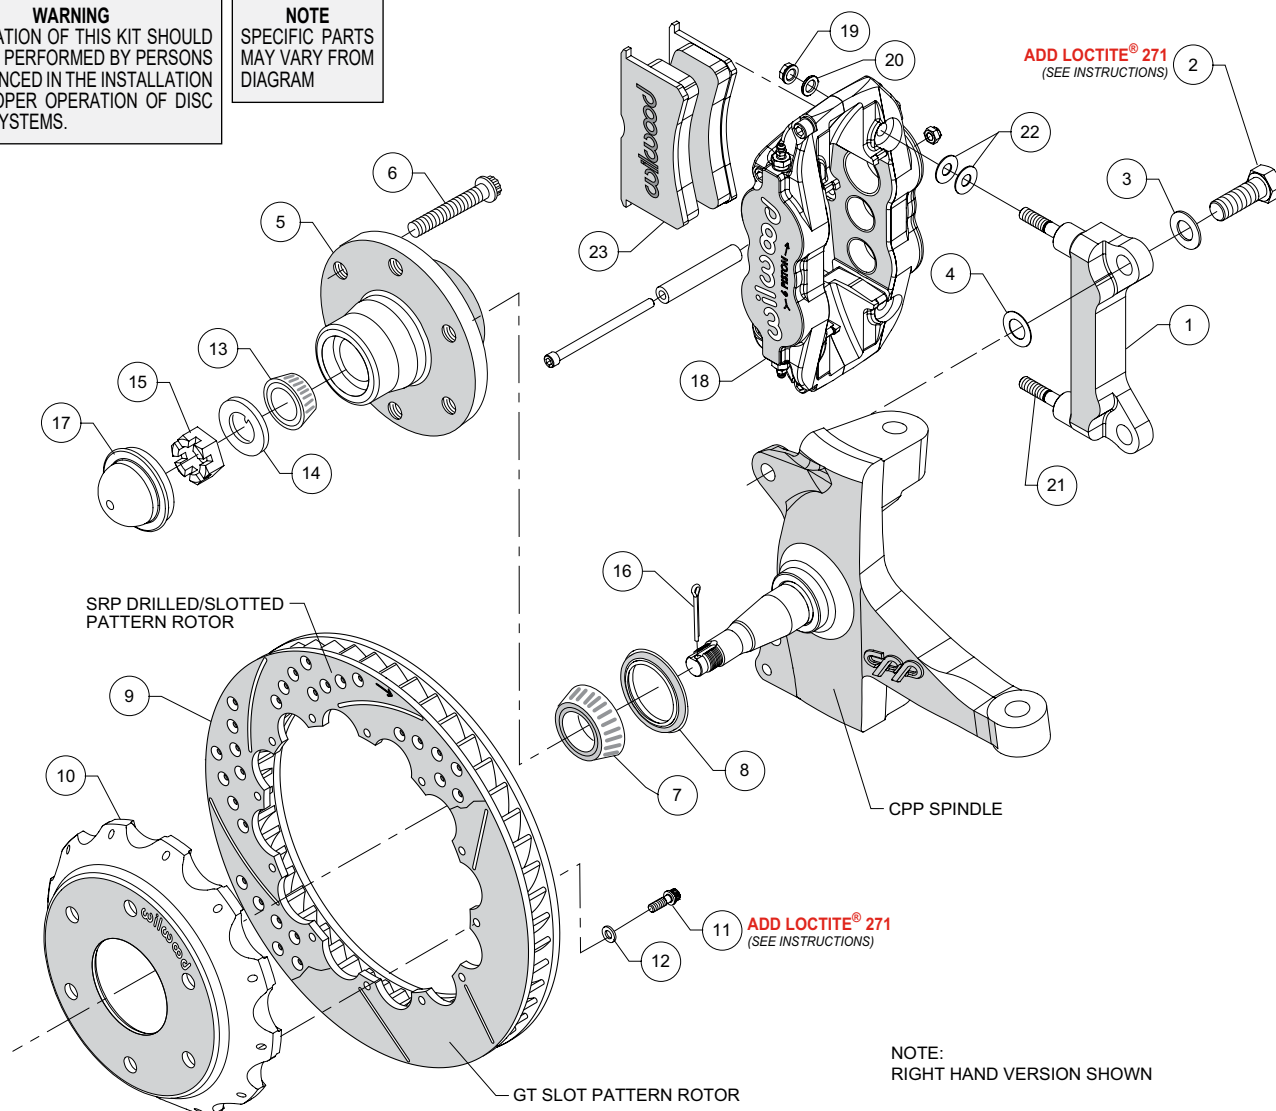
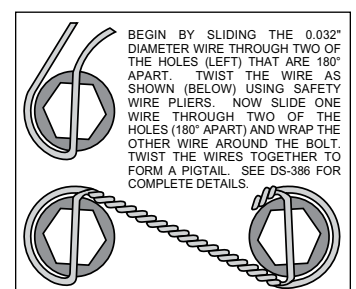

Figure 1. Typical Installation Configuration
Figure 3. Safety Wire Diagram
NOTE: Numbers in parenthesis refer to the parts list and Figure 1 on the preceding pages.
- The caliper mount bracket (1) should initially be installed with clean, dry threads on the mounting bolts. Orient the bracket, as shown in Figure 1, and Photo 1, and install using bolt (2) and washer (3). Initially place one .024" thick shim (4) on each bolt between the bracket and upright, Figure 1. Temporarily tighten the mounting bolts. **NOTE: The bracket must fit squarely against the mount bosses on the upright.** Inspect for interference from casting irregularities, machining ridges, burrs, etc. Later, after the caliper alignment has been checked, the mount bolts will be secured using red *Loctite*® 271.
- Install wheel studs (6) into the hub (5), Photo 2. Torque to 77 ft-lb.
- Pack the large inner bearing cone (7) with high temperature disc brake bearing grease (available from your local auto parts store) and install into the backside of the hub (5), Photo 3.
- Install the grease seal (8) by pressing into the backside of the hub (5), flush with the end of the hub, Photo 4.
- Orient the rotor (9) and the hat (10) as shown in Figure 1 and Photo 5. Attach rotor to hat using bolts (11) and washers (12). Apply red *Loctite*® 271 to the bolt threads and torque to 155 **in-lb** using a criss-cross pattern. and torque to 155 **in-lbs**. For an added measure of security, the bolts may be safety wired using standard 0.032 inch diameter stainless steel safety wire as shown in Figure 3. Refer to Wilwood's data sheet DS-386 (available at www.wilwood.com/Pdf/DataSheets/ds386.pdf) for complete safety wire installation instructions.
- Pack the small outer bearing cone (13) with high temperature disc brake bearing grease and install into hub (5). Slide the hub assembly onto the spindle. Secure using spindle washer (14) and spindle nut (15), Photo 6. Adjust bearings per OEM specifications. Install a new cotter pin (16).
- Press the dust cap (17) into the hub (5). **NOTE: Do not hammer center of cap. Install using outer flange only.**
•**NOTE:** This kit contains distinct right and left hand calipers that must be mounted in a specific direction, as described below. Initially place two .035" thick shims (22) on each stud (21) as shown in Figure 1 and Photo 8. Mount the caliper (18) onto the bracket (1) using lock nuts (19) and washers (20), Figure 1. Ensure that the caliper is mounted so that the largest pistons are at the rotor exit end of the caliper, in relation to the direction of rotor rotation. Temporarily tighten the lock nuts and view the rotor through the top opening of the caliper. The rotor should be centered in the caliper, Photo 9. If not, adjust by adding or subtracting shims (4) between the bracket and the upright. Always use the same amount of shims on each of the two mounting bolts. Once the caliper alignment is correct, remove the bracket mounting bolts (2) one at a time, apply red *Loctite*® 271 to the threads, and torque to 140 ft-lbs.